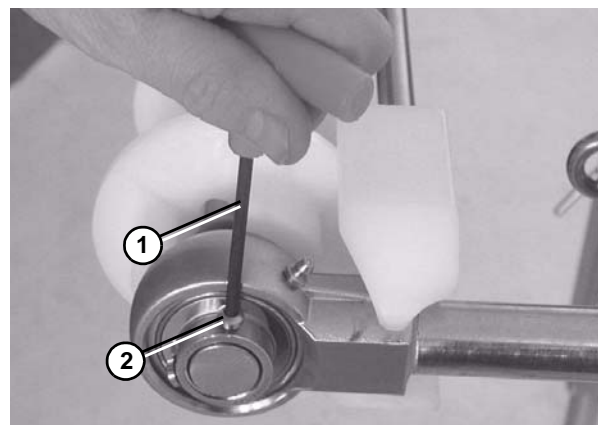

Figure 62
4. Use a hex wrench (**Figure 62, item 1**) to loosen the bearing shaft assembly fasteners (**Figure 62, item 2**).